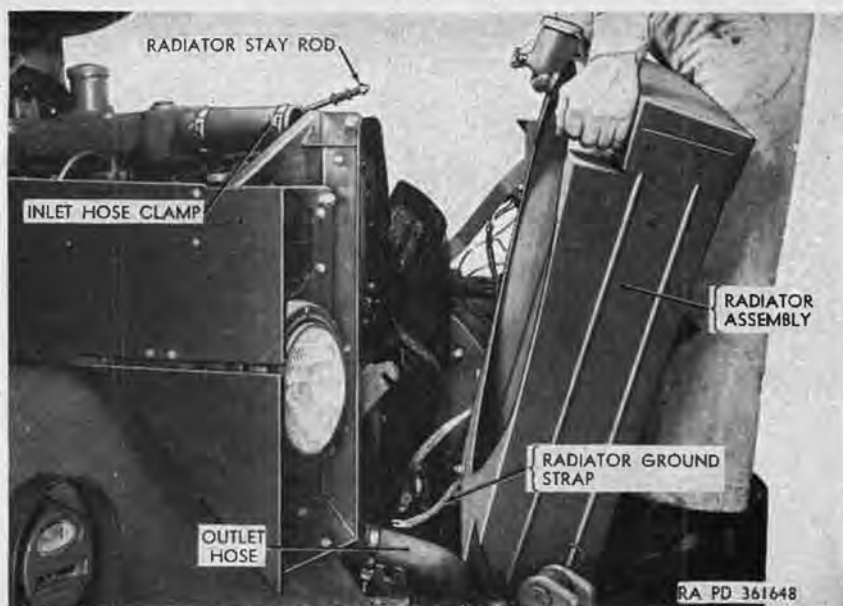

Figure 168. Lifting off radiator assembly.
- (9) Lift off radiator assembly (fig. 168).